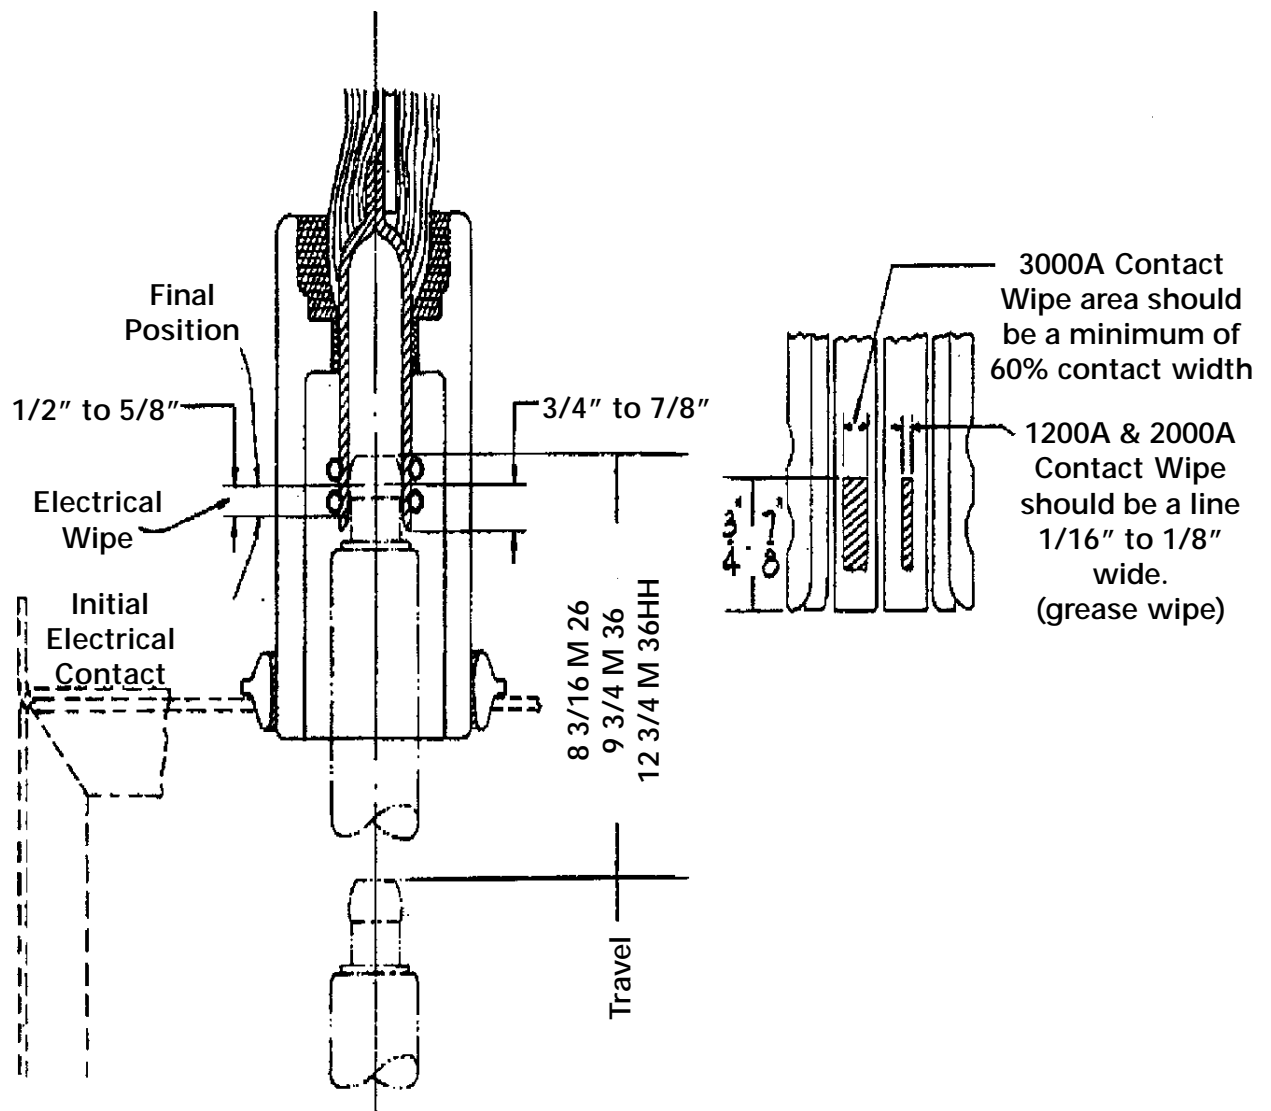

Figure 9. Primary contact penetration and wipe
1. Each segment of the stationary disconnecting device should make a heavy impression in the contact lubricant on the breaker studs as shown in Figure 9. Contact wipe should start not less than .125" from the top of the contact ball, although each contact need not start at the same location.
2. The penetration of the breaker stud inside the stationary disconnecting device, as indicated by the contact lubricant, should be 3/4" to 7/8" as shown in Figure 9. This indicates that the breaker studs contacted at the full pressure center of the silver band on the stationary disconnecting device correctly.